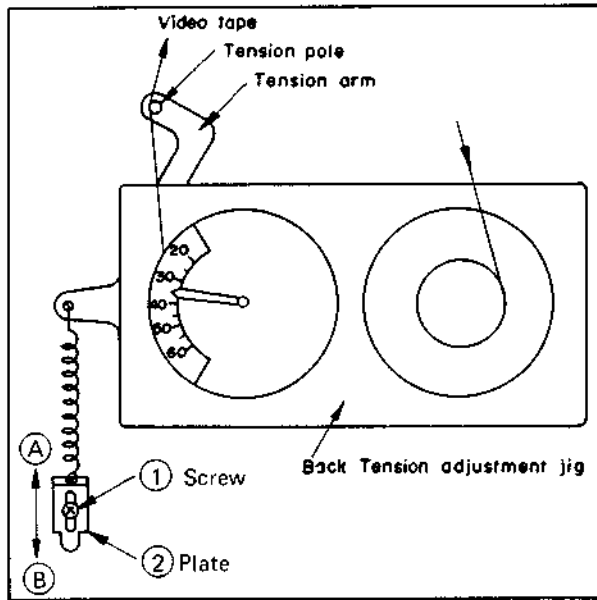

Fig. 4-14
6. Set the back tension adjustment jig as shown in Fig. 4-14 (the master plane jig is not required at this time), then set for the Play mode.
8. If greater than 45 g-cm, loosen screw (1) and slide plate (2) in the upward (A) direction to obtain 35 g-cm.
9. Conversely, if the reading is less than 28 g-cm, adjust by sliding plate (2) in the downward (B) direction.